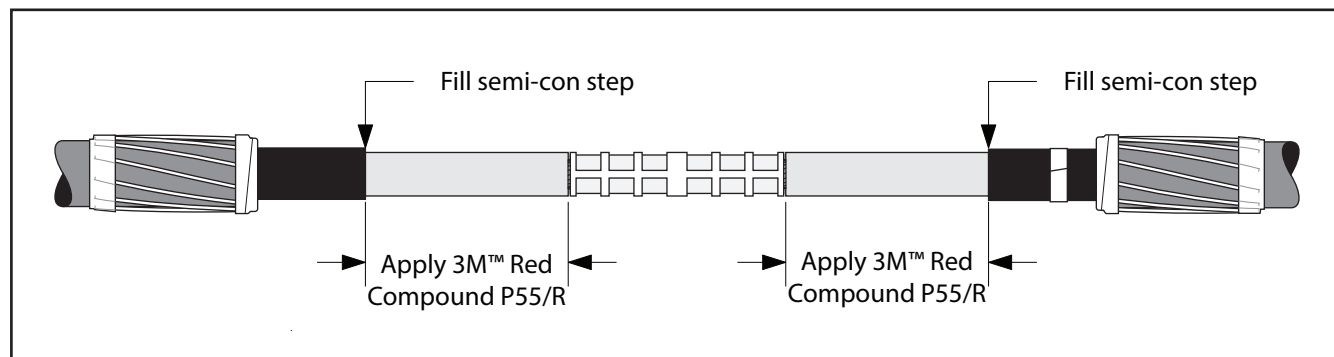

Figure 14
- 4.4 Apply 3M Red Compound P55/R on cable insulations, making certain to fill in edge of cable semi-con. **Do not use silicone grease** (Figure 14).